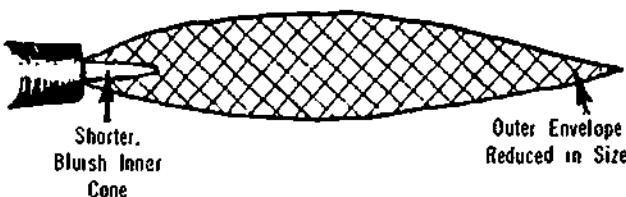

Figure 18-19. Oxidizing Flame
d) The oxidizing flame (Figure 18-19) has excess oxygen. There is more oxygen than acetylene fed to the torch for this type of flame than the 1-to-1 ratio of the neutral flame, producing a shorter, more bluish cone and a somewhat shorter outer envelope. Melting steel with this flame produces excessive foaming and sparking of the metal. Its main use is in braze welding and fusion welding of manganese.